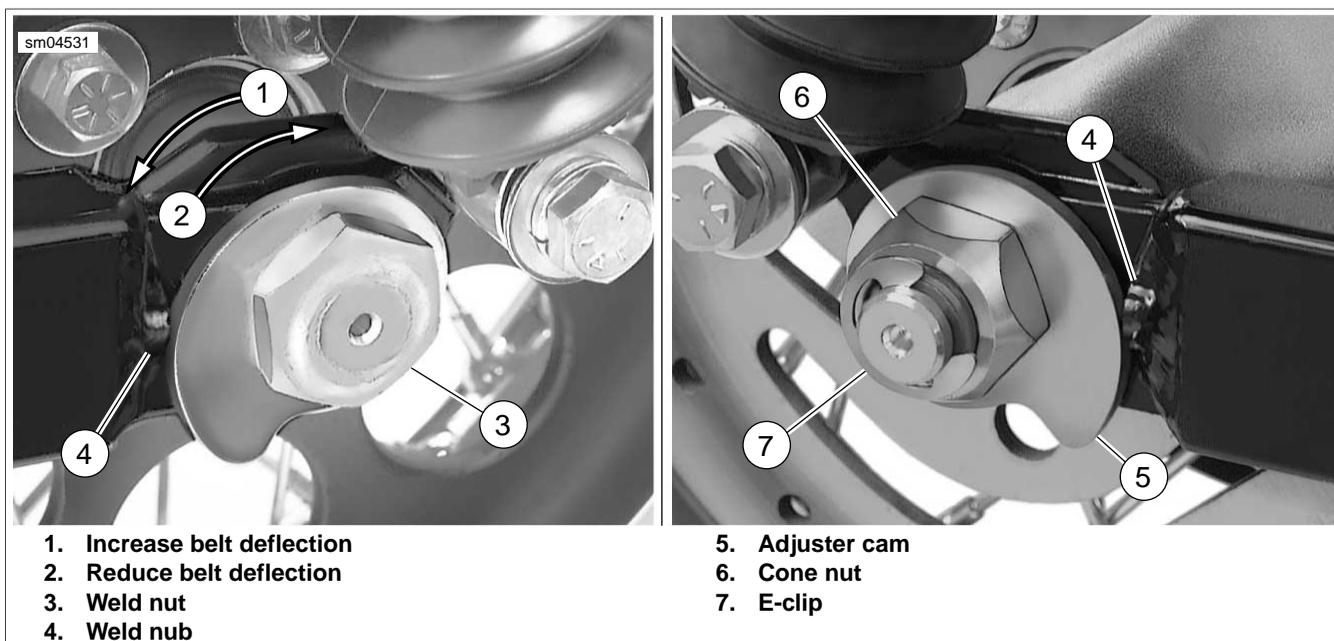

Figure 2-7. Rear Wheel Adjuster Cams
- c. Verify that cam just contacts weld nub on both sides of rear swingarm. If necessary, push wheel forward slightly to achieve the desired result. See Figure 2-7.